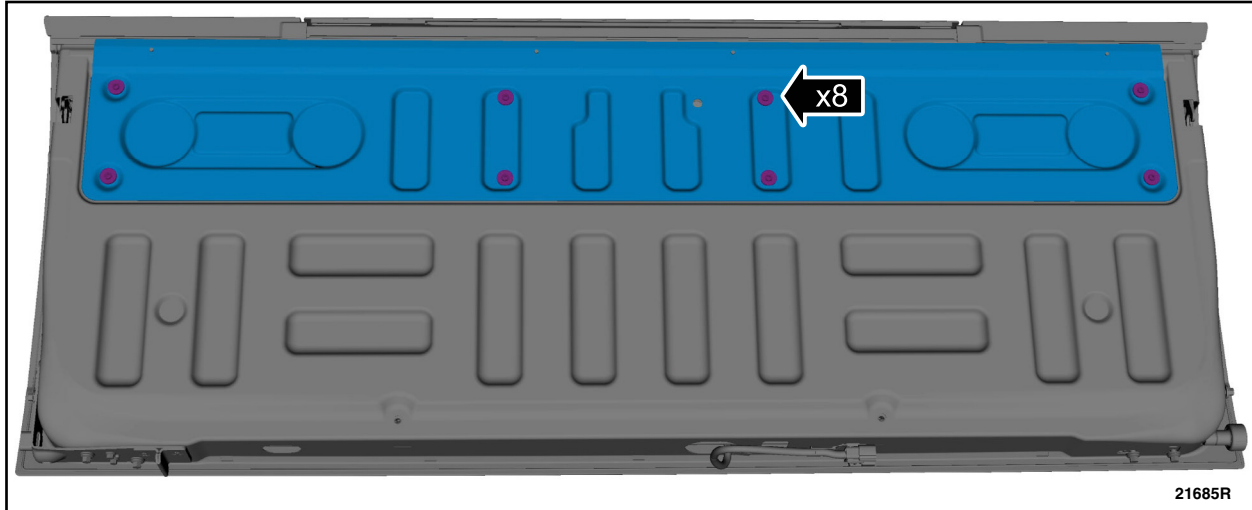

FIGURE 19
23. If equipped, remove the tailgate access panel bolts and the tailgate access panel. See Figure 19.